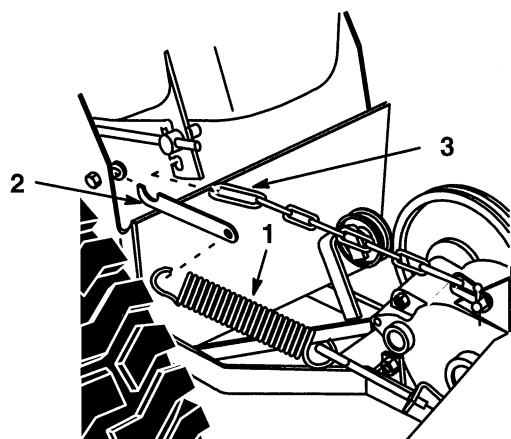

Figure 20
6. Unhook lift assist spring and spring catch from tractor (Fig. 20).
8. Unhook long link of lift chain from lift arm (Fig. 20).